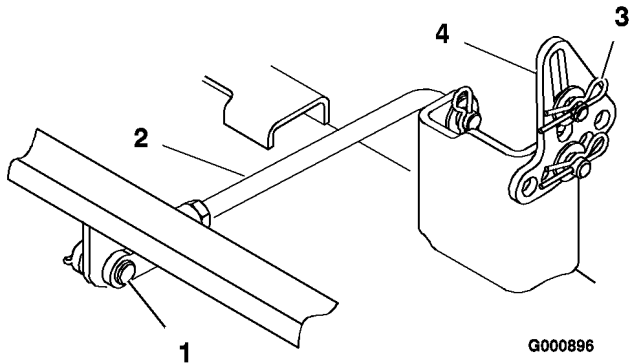

Figure 48
6. Remove the hairpin cotter and clevis pin from the rear trunion rod (Figure 48) on each side of the mower.
7. Remove the hairpin cotter and washer at the mower leveling brackets (Figure 48) on each side of the mower. Note which hole the leveling bracket is mounted in for future installation. Slide the brackets off of the mounting pin.
6. Attach the rear trunion rod to the tractor with the clevis pin and hairpin cotter (Figure 48) on each side of the mower.
7. Slide the leveling brackets onto the mounting pins and secure them with the washers and hairpin cotters (Figure 48).